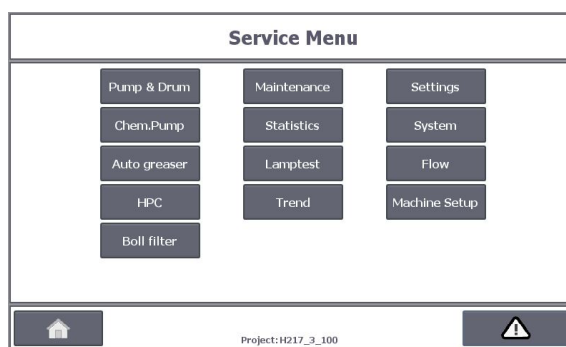
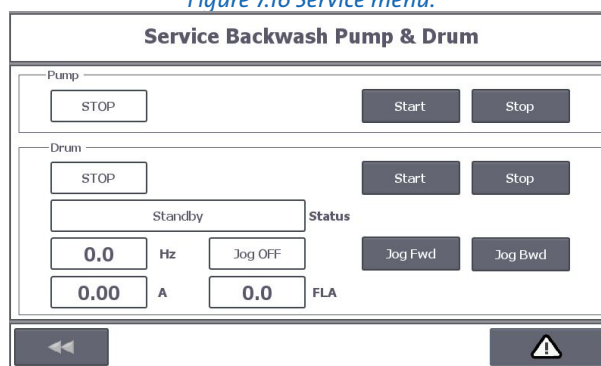

Figure 7.16 Service menu.
Figure 7.17 “Service Backwash Pump & Drum”.
3. Select “Pump & Drum”, see Figure 7.16. Use the “Jog Fwd” and “Jog Bwd” buttons to set the drum to the desired mode, see Figure 7.17.
4. Turn the safety switch to the OFF (0) position and lock in the OFF (0) position with a padlock.